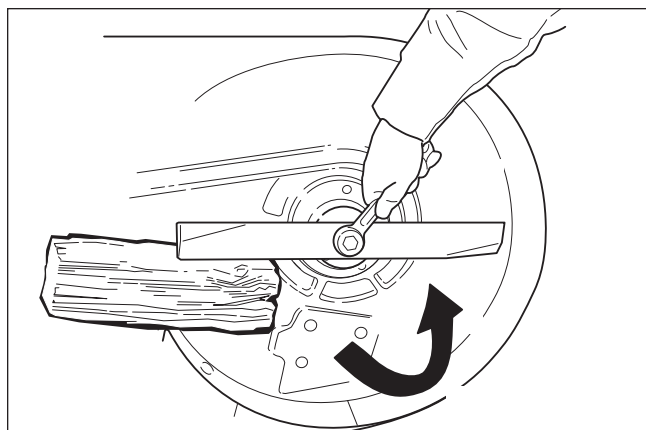

Figure 26. Loosening the Mower Blade for Removal
2. To remove the mower blade, use a 15/16" wrench to remove the mower blade mounting bolt (**Figure 26**).